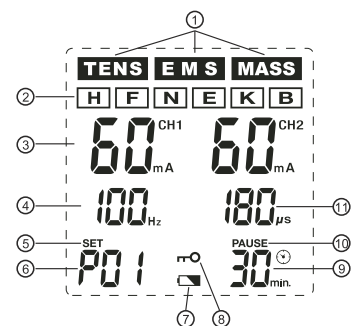

Fig. 4
Step 5: Press the key ⑤ (**CH1+**) or ⑪ (**CH2+**) in order to increase the output intensity of channel 1 (**CH1**) or channel 2 (**CH2**) and to start the application. Press the key ⑦ (**CH1-**) or ⑨ (**CH2-**), in order to reduce the output intensity of channel 1 (**CH1**) or channel 2 (**CH2**). On the display of the device, the selected output intensity as well as the remaining application duration will be shown. Each application starts from the intensity level **1** for each channel. You can read the current intensity setting on the display (see ③, **Fig. 4**: Information about the output intensity (here, e. g. **60 mA**) in **mA** (milliampere) for channel **CH1** (left) und **CH2** (right).